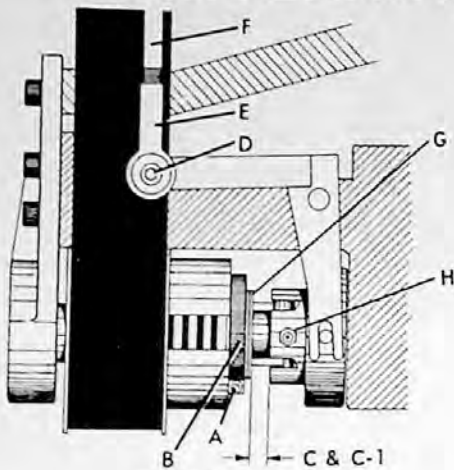

FIGURE 16
3. Loosen socket head capscrew (A, figure 16) on adjusting nut (B). (NOTE: Use 9/64" wrench furnished.)